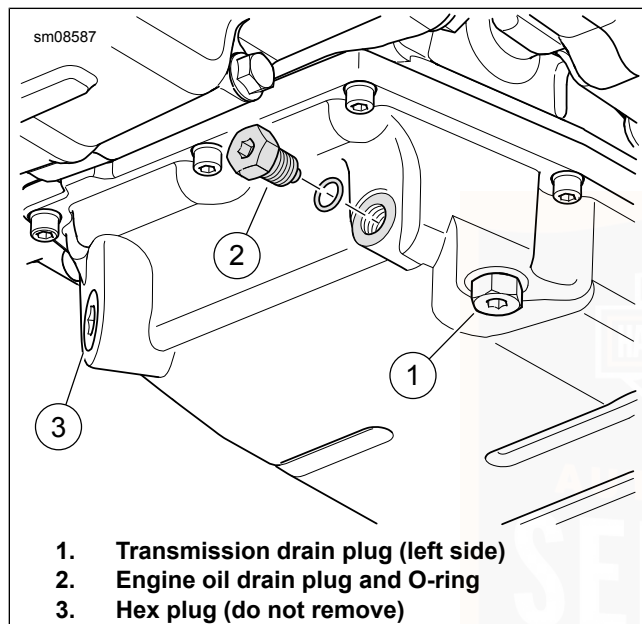

Figure 64. Oil Pan
3. See Figure 64. Remove the oil drain plug (2) and O-ring. Allow oil to drain completely.